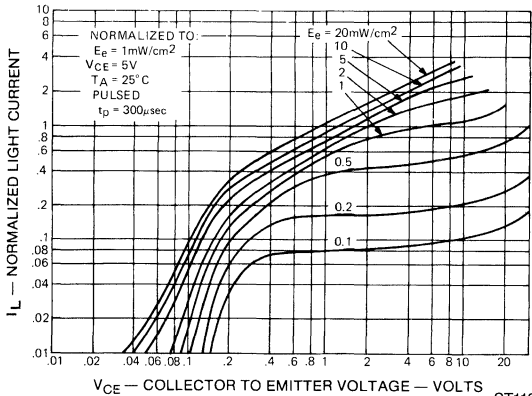
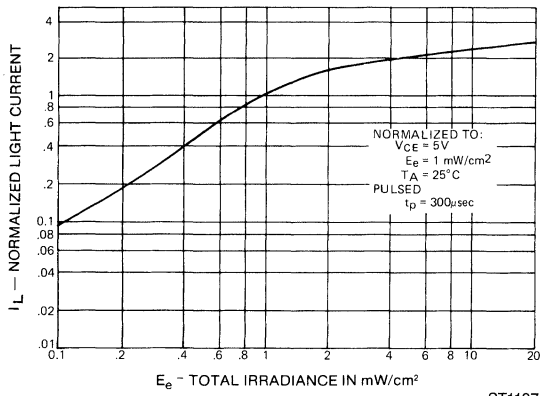

Fig. 1. Light Current vs. Collector to Emitter Voltage ST1102
Fig. 2. Light Current vs. Radiation ST1107
- Figure 1 and figure 2 use light source of tungsten lamp at 2870°K color temperature. A GaAs source of 3.0 mW/cm^2 is approximately equivalent to a tungsten source, at 2870°K , of 10 mW/cm^2 .